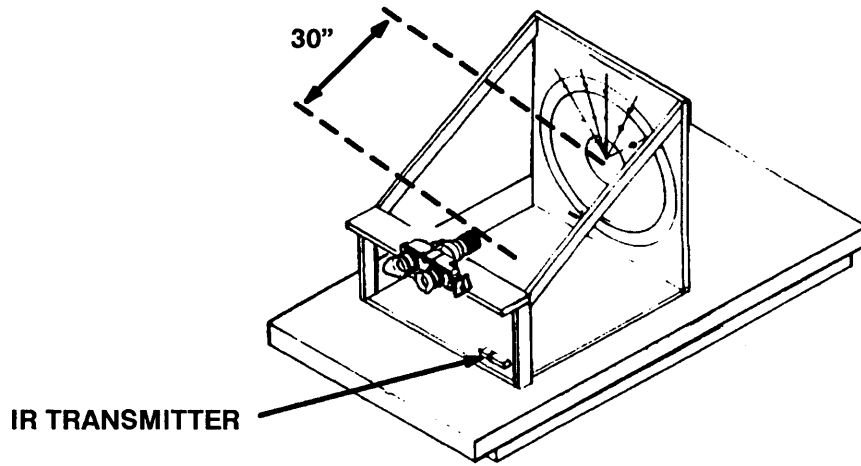
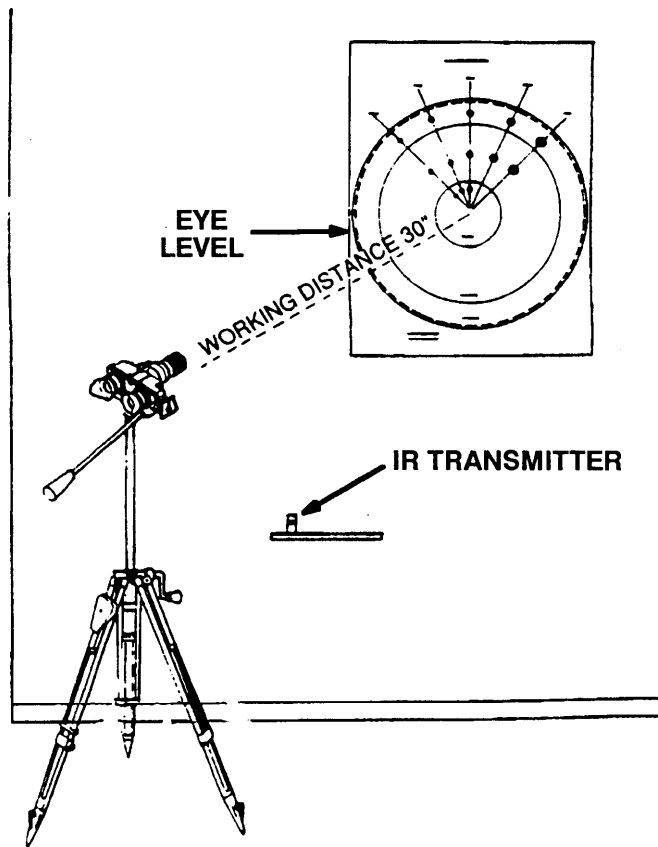

Figure 3-18. Dark Room Setup with Test Fixture.
Figure 3-19. Dark Room Setup with Tripod.
- a. Set up your dark room as shown in Figure 3-18 or Figure 3-19.